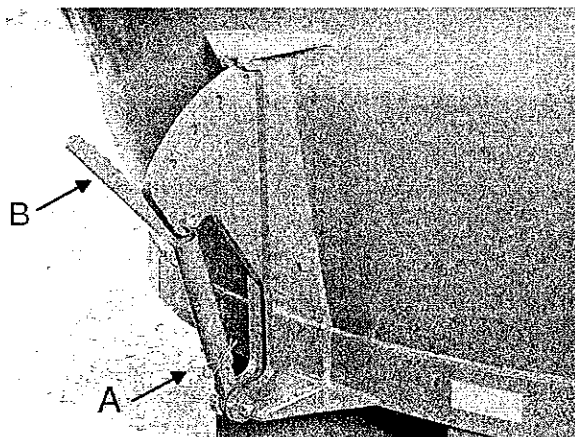

Figure 14. Manual Restrictor Blade Adjustment.
**Manual Restrictor Adjustment** - The distance the restrictors extend into the mixing tub is determined by the position of the adjustment pin (Figure 14-A). To adjust the restrictors, remove the adjustment pin, push or pull the restrictor adjustment handle (Figure 14-B) to the desired operating position, and replace the adjustment pin.